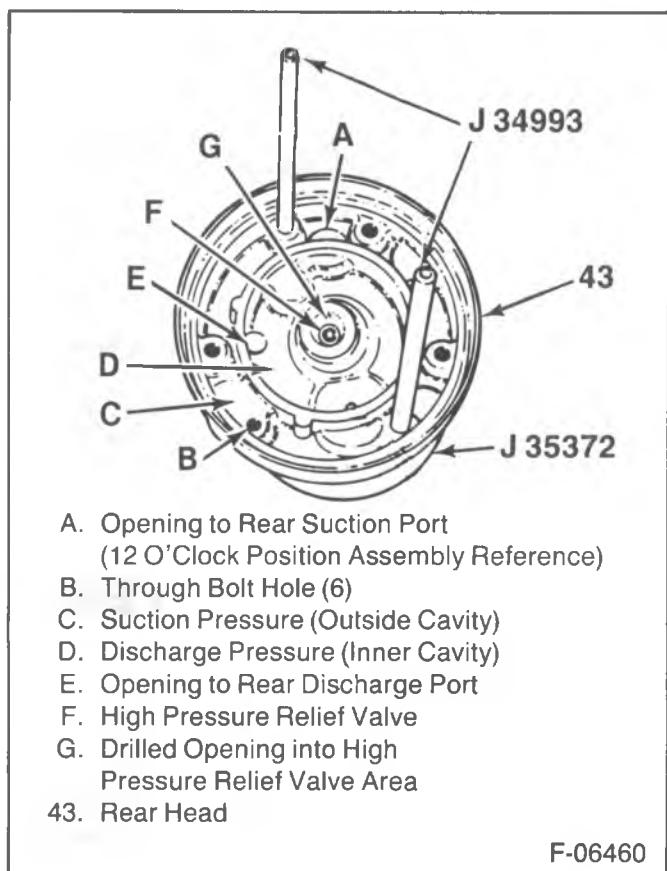

Figure 26—Positioning the J 34993 Guide Pins
- Place the rear head on J 35372 with the control valve (5) at the 6 o'clock position.
1. Cylinder Alignment Rods J 34993 in the mounting holes at the 5 and 11 o-clock positions (figure 26).